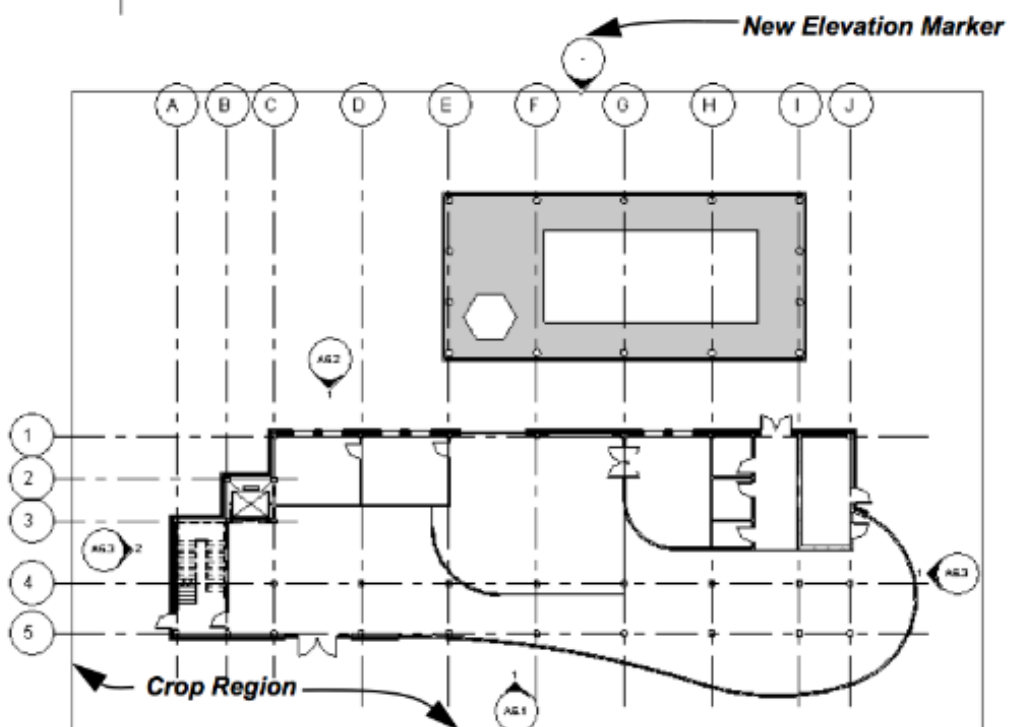

Figure 7-54
9. Place an elevation marker outside of the pool building, as shown in Figure 7-54.